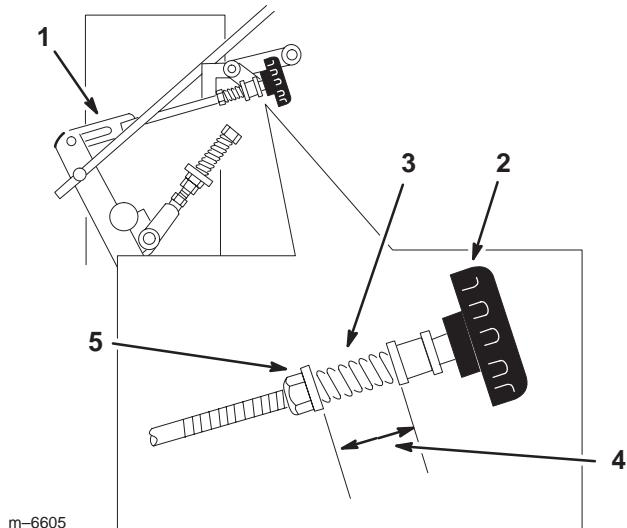

Figure 54
4. Adjust the right side linkage by turning the quick track knob counterclockwise until the tire begins to rotate forward (Fig. 54).
5. Turn the knob clockwise $1/4$ of a turn at a time. Then move the speed control forward and back to neutral. Repeat this until right wheel stops rotating forward (Fig. 54).
6. The spring that keeps tension on the knob should normally not need adjustment. However, if adjustment is needed, adjust the length of the spring to 1 inch (26 mm) between the washers (Fig. 54).
7. Adjust spring length by turning the nut at the **front** of the spring (Fig. 54).